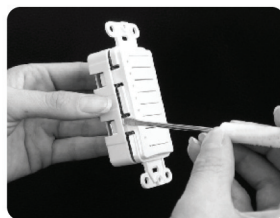

Figure 1
1. Using a small flat blade screw driver, carefully separate the Switch Base Assembly from the Faceplate (as shown in figure 1).